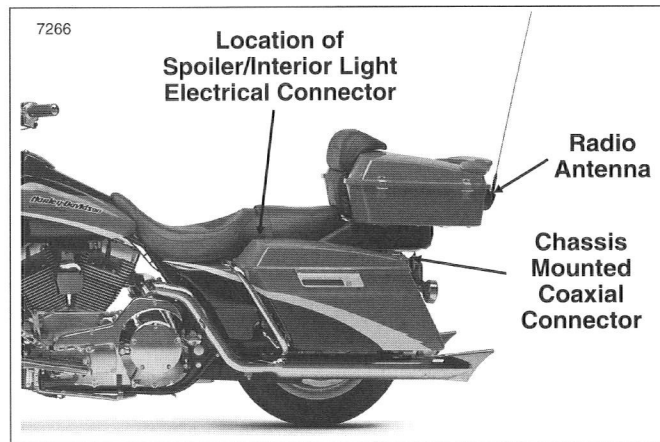

Figure 22. TOUR-PAK Electrical Connections
1. See Figure 22. Loosen the set screw at the radio antenna base using a M4 allen wrench.
4. See Figure 22. Disconnect the coaxial radio antenna cable leading from the TOUR-PAK to the top of the chassis mounted coaxial adapter.
5. See Figure 22. Connect the twelve-pin electrical connector going to the TOUR-PAK spoiler/interior light/CD Changer, and tuck under seat.